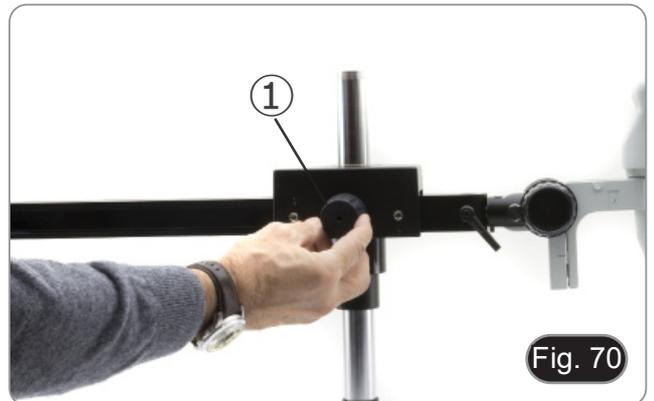

Fig. 70
1. Unlock the knob on the right side of the horizontal arm ①. (Fig. 70)